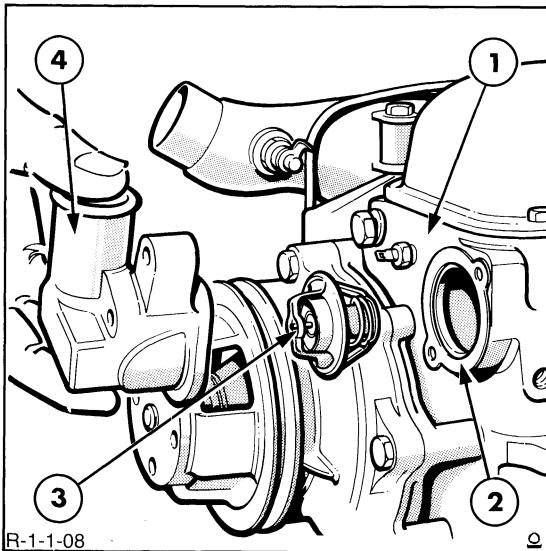

Figure 8
1. Remove the coolant outlet connection and the thermostat and gasket, Figure 8.